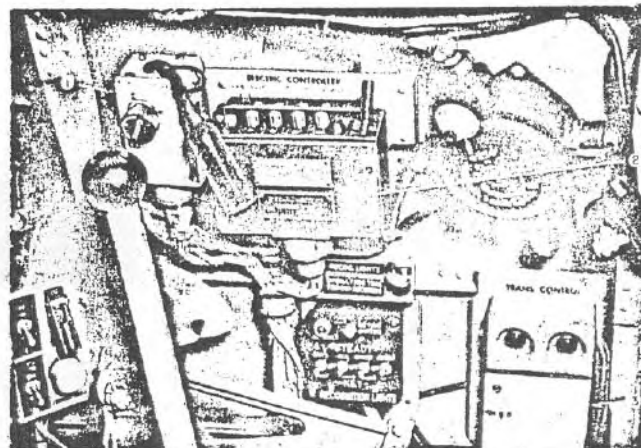
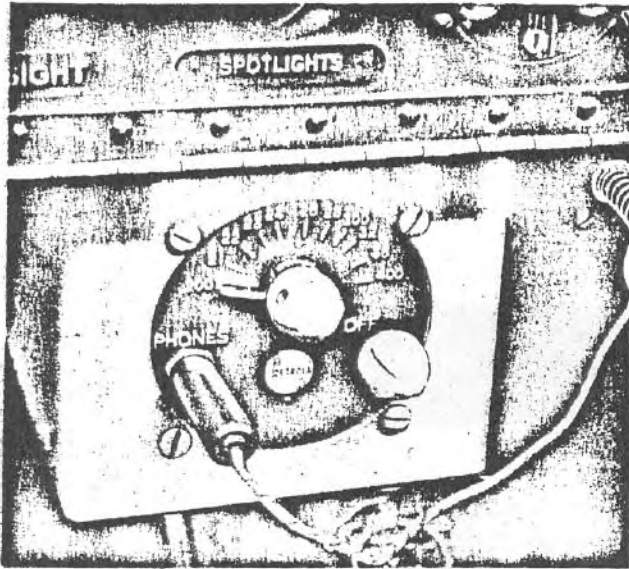

Figure 42—SCR-522-A Radio Controls
Figure 43—SCR-43B Radio Controls
a. **GENERAL.**—The radio equipment consists of two alternate radio sets, namely SCR-274-N and SCR-522-A. Since these two sets differ considerably, they will be described separately. All control units necessary for operating either radio are located on the right side of the cockpit where they are readily accessible to the pilot. The radio call plate is located on the instrument panel. The SCR-438 Detrola radio (figure 43) is a portable range receiver used with the SCR-522-A installation (figure 42). It covers the frequency range from 200 to 400 kilcycles (beacon and weather band).
b. **RADIO SET SCR-522-A.** (Figures 42 and 43).